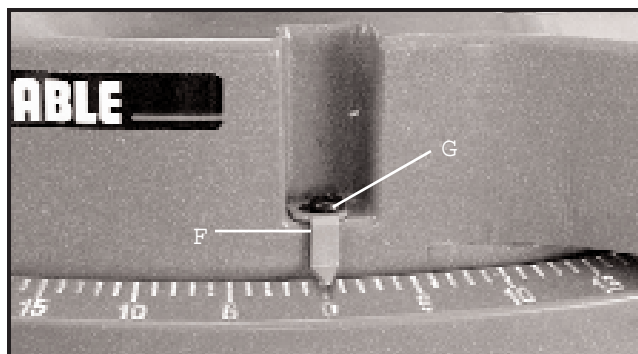

Fig. 20
5. After you are sure the fence is 90 degrees to the blade, adjust the cursor (F) Fig. 20, so the pointer is aligned with the 0 degree mark on the scale by loosening screw (G), adjusting cursor (F) and tightening screw (G).